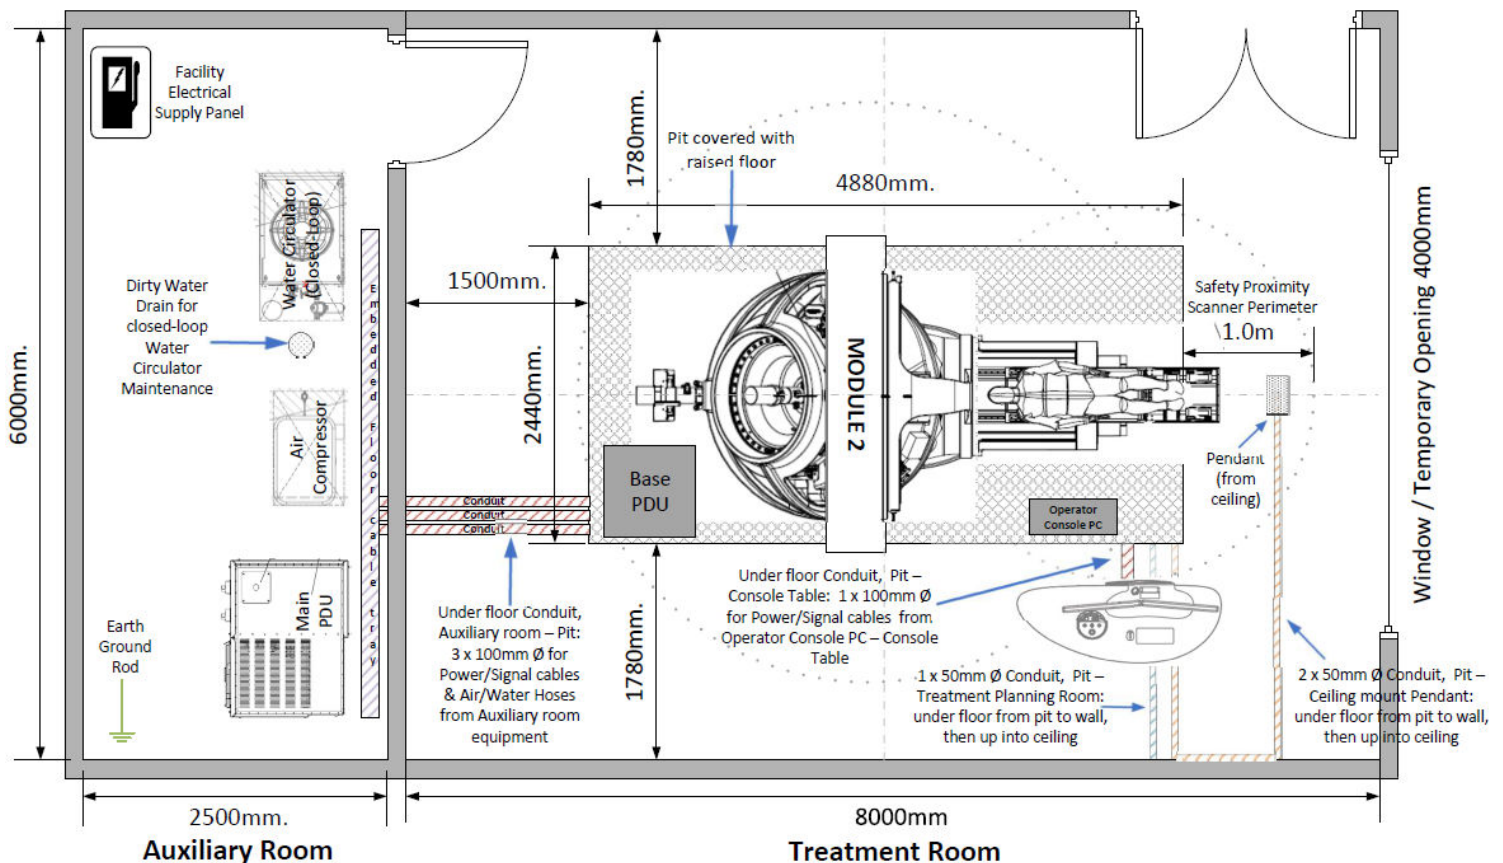

Figure 1 - Typical Room Layout
- Figure 1 shows a typical layout for the Treatment Room and Auxiliary Room.
- The Auxiliary Room is located adjacent to the Treatment Room (see Figure 1). Three (3) 100mm (4”) conduits need to be installed under the floor between the Auxiliary Room and the Treatment Room Pit to run the Power & Signal cables, Air and water hose interconnections to the ZAP-X system.
- The Treatment Room must be at ground level with access to a minimum 3.7 m (12' 0") wide x 3.0 m (9' 10") high exterior building opening for installation of the ZAP-X system. The opening may be temporary for the installation phase. (Recommended width of opening 4.0m wide x 3.0m high for ease of access for transport modules, additionally it is recommended that the opening is aligned with the pit center line) See Figure 1 - Typical Room Layout.